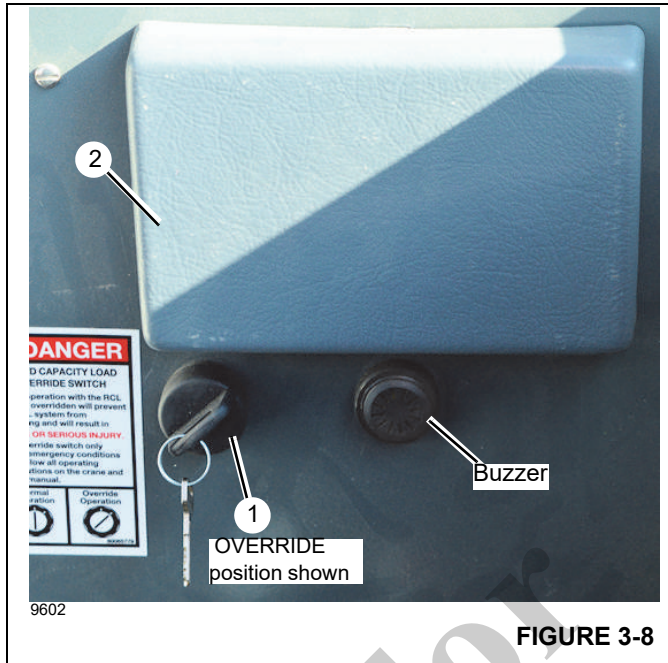

FIGURE 3-8
The RCL bypass switch (1, Figure 3-8) located behind the cab seat, below the fuse relay panel (2), is an off/on switch and overrides the overloaded controls until the switch is turned to the OFF position.